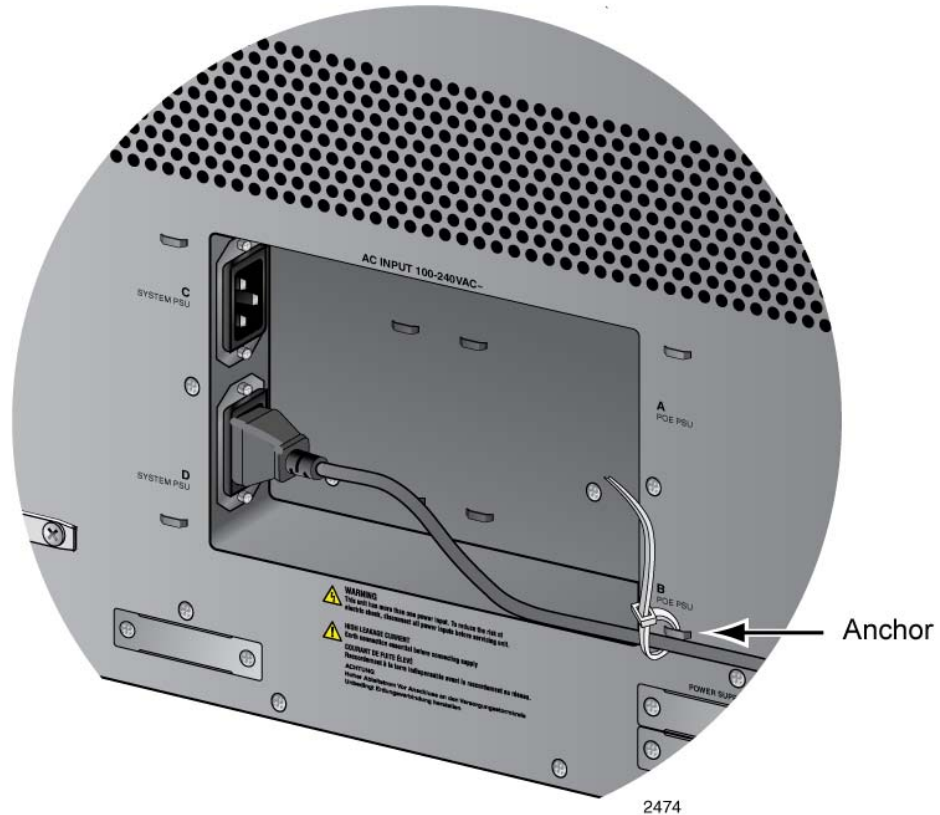

Figure 91. Securing the Power Cord for the AT-SBxPWRSYS1 or AT-SBxPWRSYS2 AC Power Supply to an Anchor
3. Use the twist tie included with the power supply to secure the cord to an anchor on the chassis to protect it from being accidentally pulled out, as shown in Figure 91 on page 156.